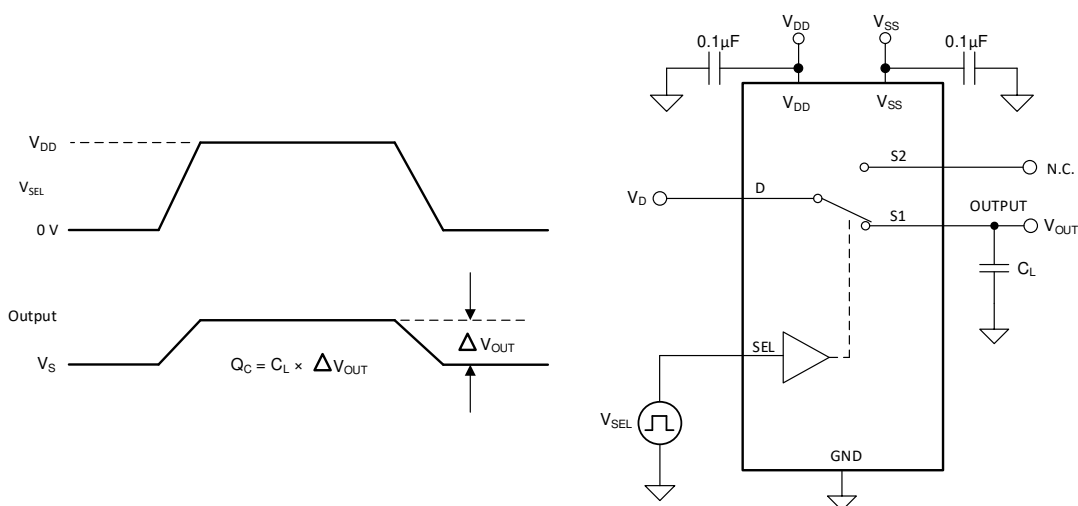

图 7-6. Charge-Injection Measurement Setup
The TMUX1248 has a transmission-gate topology. Any mismatch in capacitance between the NMOS and PMOS transistors results in a charge injected into the drain or source during the falling or rising edge of the gate signal. The amount of charge injected into the source or drain of the device is known as charge injection, and is denoted by the symbol  $Q_C$ . 图 7-6 shows the setup used to measure charge injection from Drain (D) to Source (Sx).